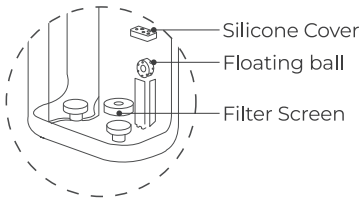

Figure 12
- (1) Pull out the silicone cover of the floating ball and then take out the floating ball (**Figure 12**).
- (2) Pull out the filter screen in the same direction, as shown in the figure (**Figure 12**).